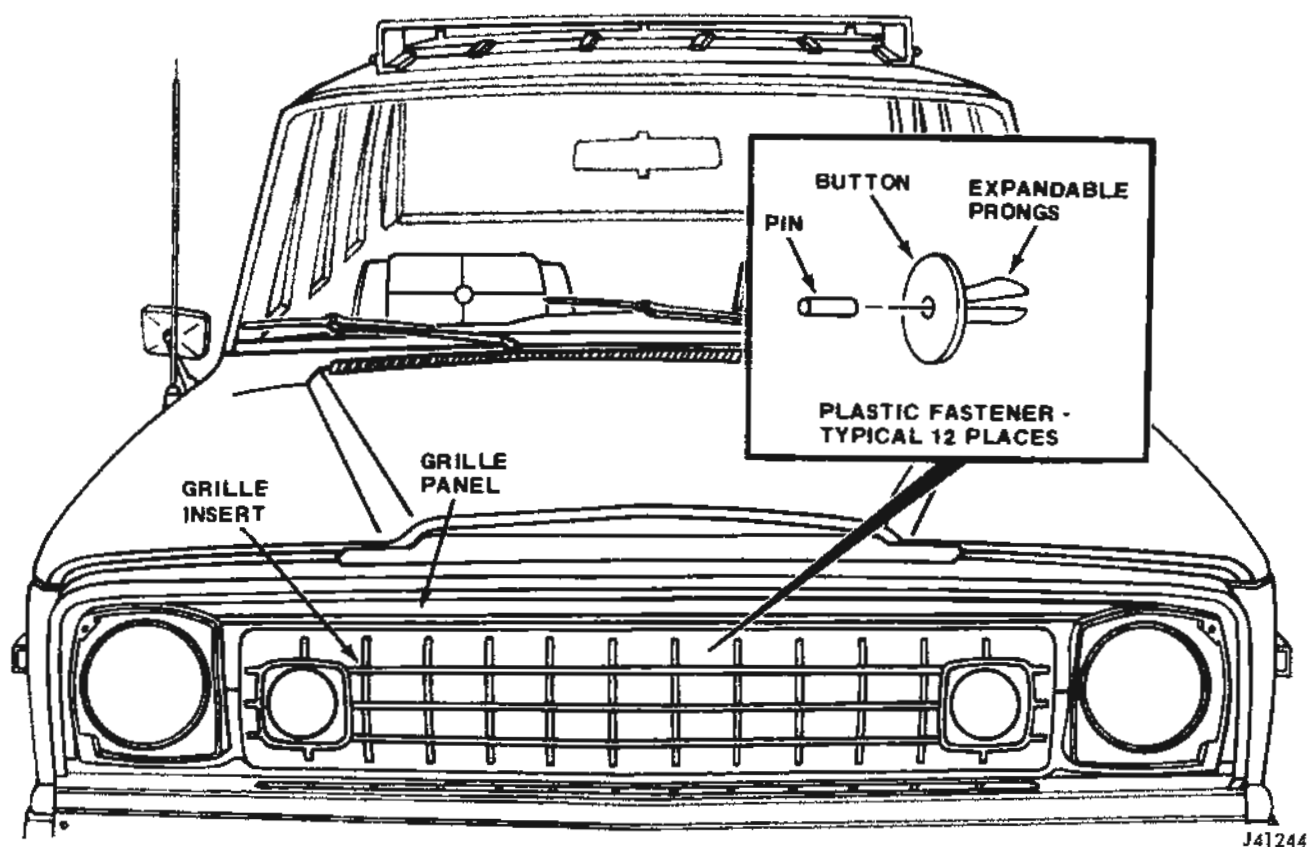

Fig. 14-10 Grille Insert and Fasteners - Wagoneer
Wagoneers feature a new molded radiator grille insert which can be quickly replaced when damaged (fig. 14-10). The grille insert is secured to the grille panel with disposable plastic fasteners to facilitate servicing.
(1) Push the pin through and out the back of the button-shaped plastic fasteners using a 1/8-inch diameter tool (fig. 14-10).
(2) Remove and discard plastic fastener buttons.
(3) Remove grille insert from grille panel and disconnect parking light wiring at harness connectors.
(4) Connect parking light wiring to harness connectors and position grille insert in grille panel.
(5) Align holes in grille insert with grille panel holes and install plastic fasteners. Push pin in flush with fastener button, expanding fastener prongs.